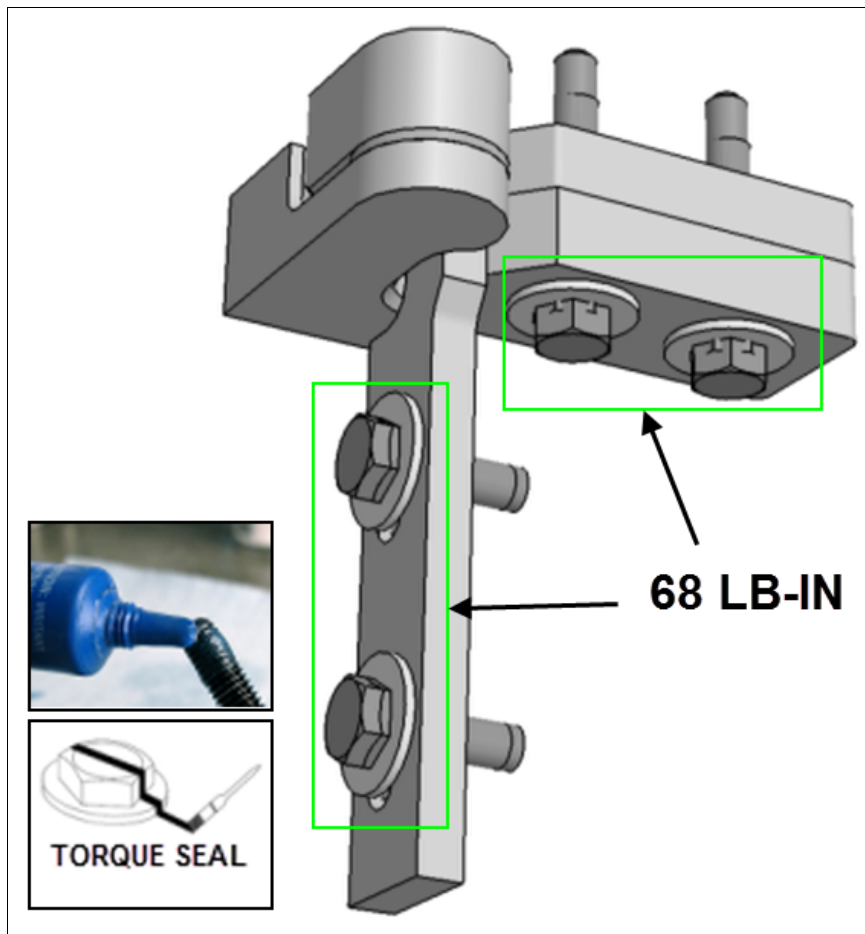

FIG.9 APPLY THREAD LOCKER, TORQUE & APPLY TORQUE SEAL
6. With the door gaps correctly adjusted, remove bolts and apply blue, *medium strength thread locker* (remove bolts one at the time – do not disturb adjustment), torque fasteners to the specified torque (**68 lb-in**) and apply a stripe of tamper proof indicator paint (torque seal) to all bolt heads (Fig.9).